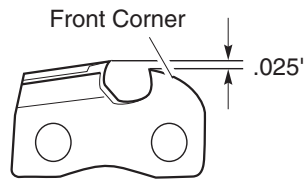

Figure 22 - Round Off Front Corner Of Depth Gauge
3. Remove depth gauge tool. With flat file, round off front corner of cutter depth gauge (see Figure 22).